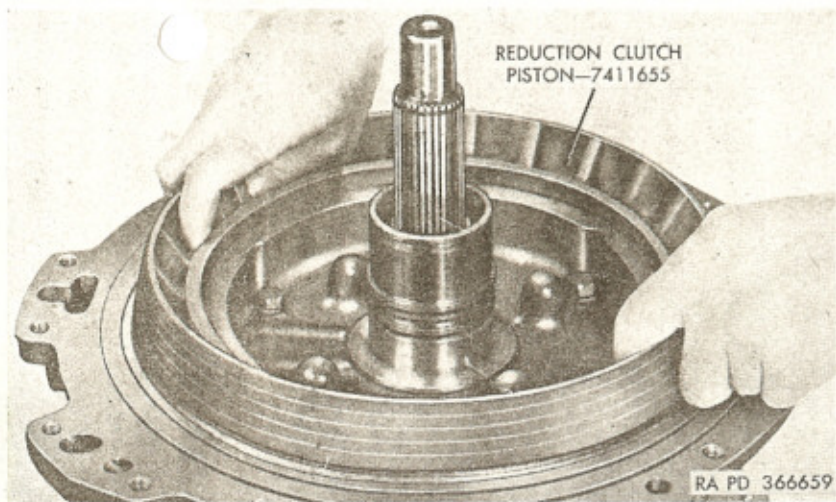

Figure 212. Installing reduction clutch piston assembly (303M).
d. Install reduction clutch piston assembly in output shaft bearing retainer. Revolve clutch piston until the holes in piston index with guide pins on output shaft bearing retainer, at the same time working clutch piston seal into recess of bearing retainer. Push reduction clutch piston assembly (fig. 212) into bore of output shaft bearing retainer.